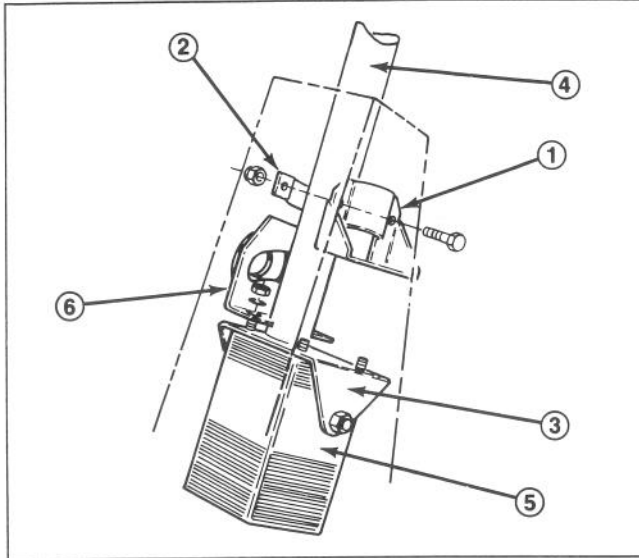

Figure 1
1. Remove capscrew and locknut securing column support to mounting bracket (Fig. 1). Discard screw and nut.
2. Loosen clamp half mounting screws securing column support to steering column (Fig. 1).
3. Slide steering column upward until valve mounting studs are positioned into mounting bracket and pivot plate (Fig. 1).
4. Secure valve to mounting bracket and pivot plate with (2) locknuts (5/16-18) and (2) flat washers (3/8 I.D. x 7/8 O.D.).
6. Secure valve to mounting bracket and column support with (2) locknuts (5/16-18) and (2) flat washers (3/8 I.D. x 7/8 O.D.).